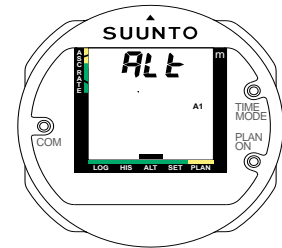

Fig. 4.7 PERSONAL/ALTITUDE ADJUSTMENT SETTING, STEP 1
1. Activate the personal/altitude adjustment setting mode by connecting the TIME/MODE and COM contacts continuously. Release your fingers immediately when Alt appears on the display. Within a couple of seconds the present personal/altitude adjustment setting is shown (Fig. 4.7).